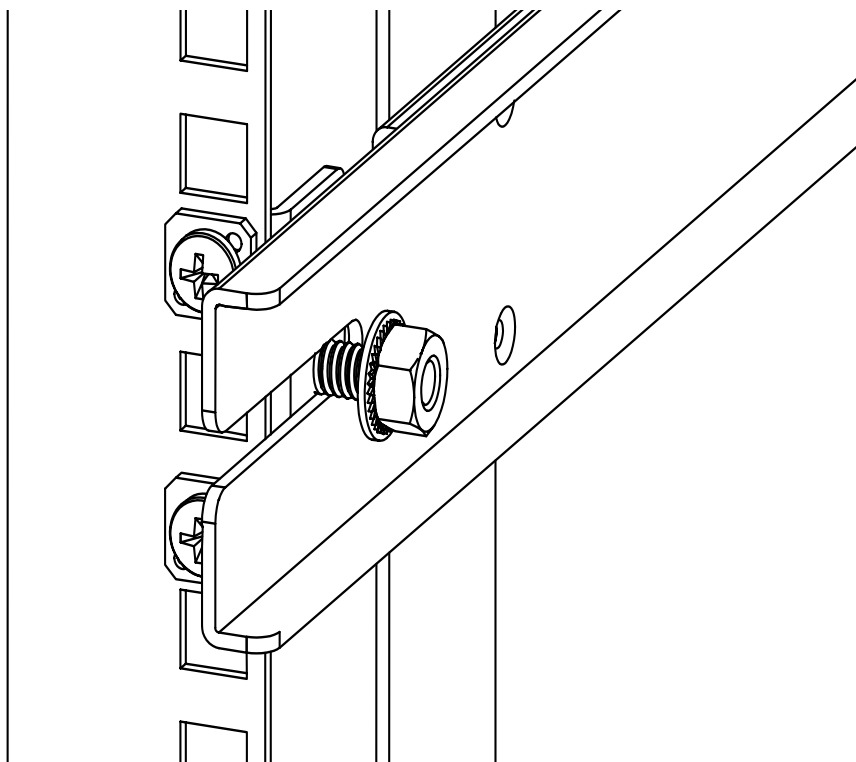

Figure 9 Installing the outer rails (HP 10,000 series)
- Attach the left outer rail and the right outer rails to the rear mounting brackets using (2) 1/4-20 hex nuts with captive star lock washers attached loosely as shown in Figure 9. Don't tighten them. The nuts will be tightened later in step 12 on page 49.
12. Tighten the nuts installed in step 4 on page 42. See Figure 9 on page 42.